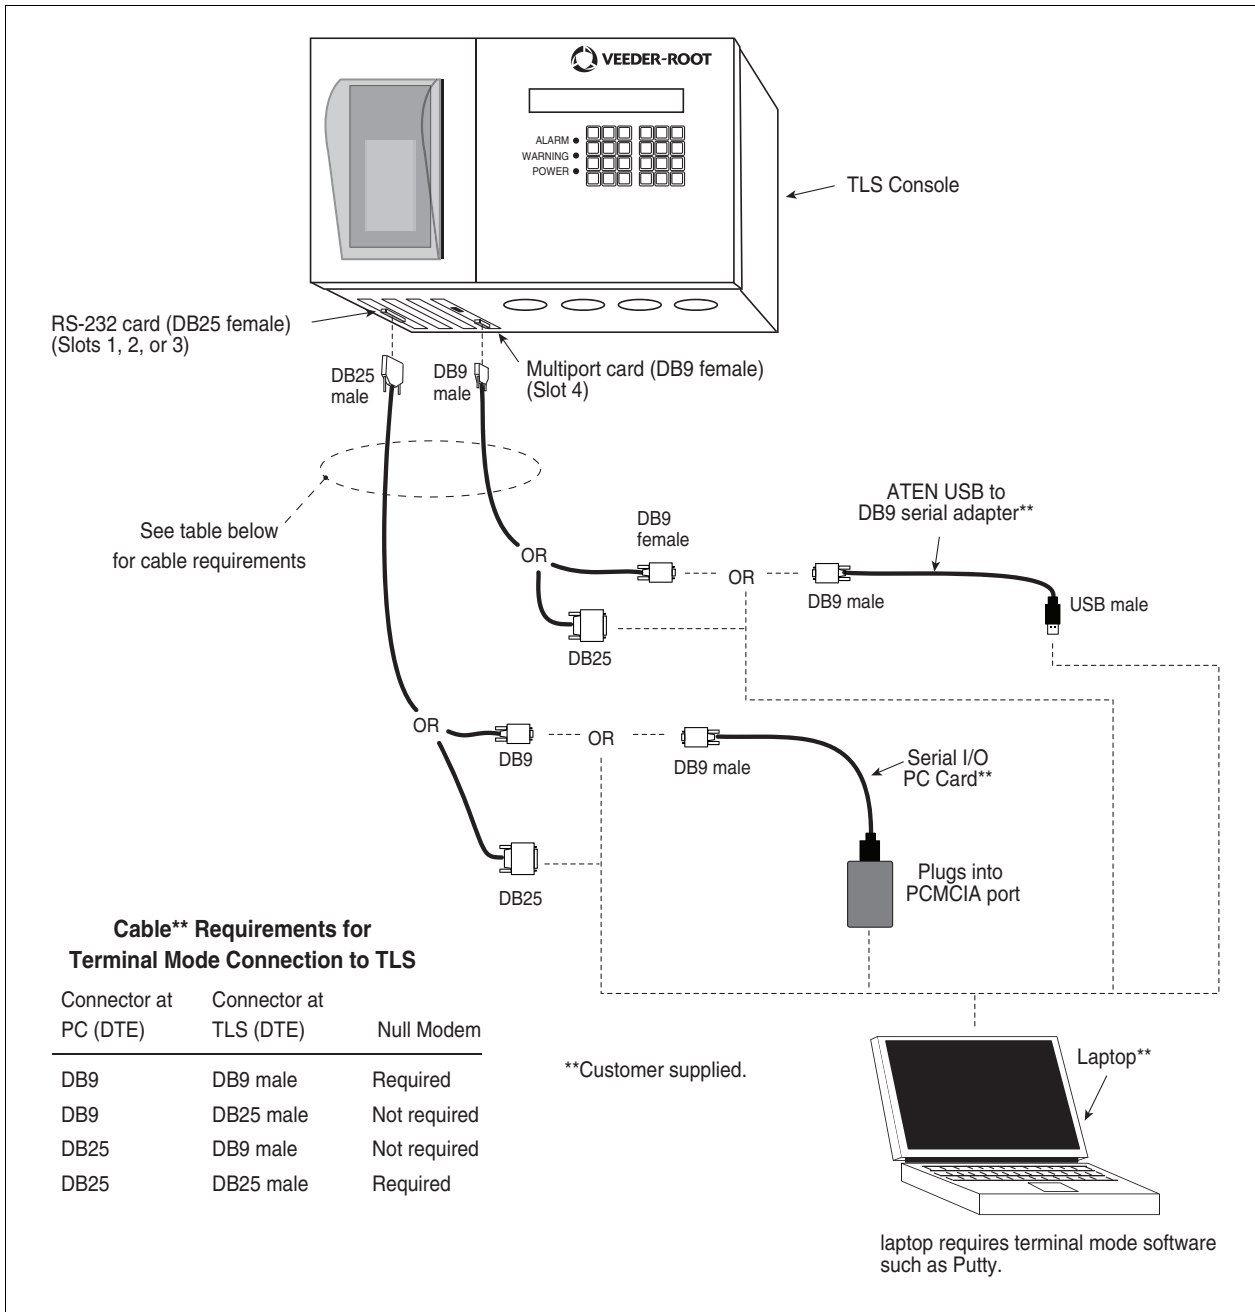

**Figure 11. Console comm port settings printout example**
- d. Press the PRINT key to printout the port settings for all communication modules installed in the console. Figure 11 shows an example port settings printout with the RS-232 module installed. Using the console port settings in the example below, your HyperTerminal 'Port Settings' window entries would be Bits per second - 2400, Data bits - 7, Parity - Odd, Stop Bits - 1. For the 'Flow Control' entry select None. Click OK.